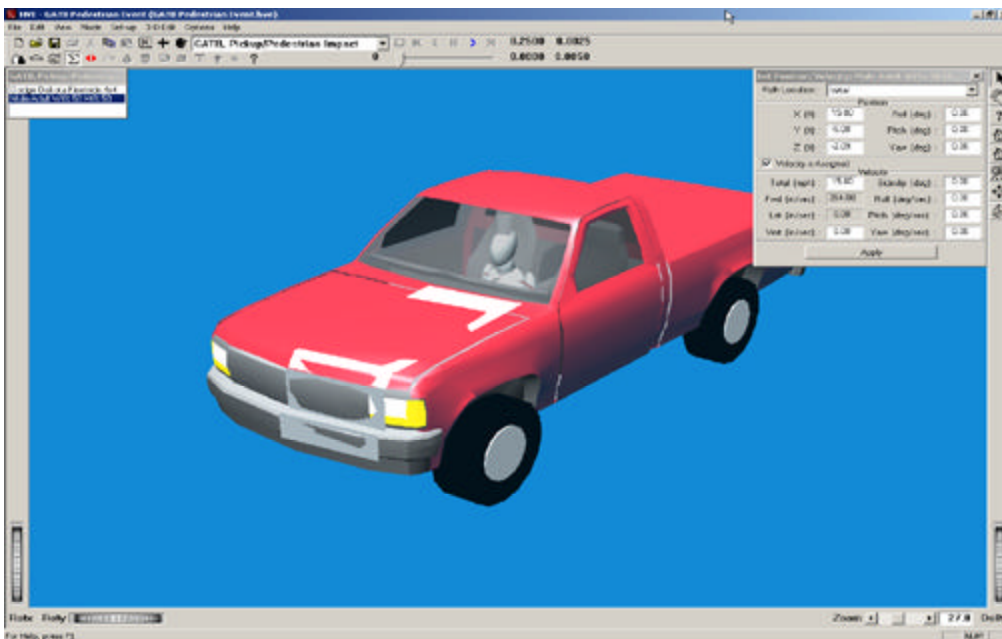

Figure 5-34: Setting up pedestrian position
- Using the Event Editor dialog, select the Human from the Event Humans & Vehicles list, then select *Set-up* from the menu bar, choose *Position/Velocity* and click *Initial*. The human is displayed at the vehicle's origin (notice the human is half buried in the vehicle geometry; this occurs because AutoPosition does not apply to humans). See Figure 5-34.